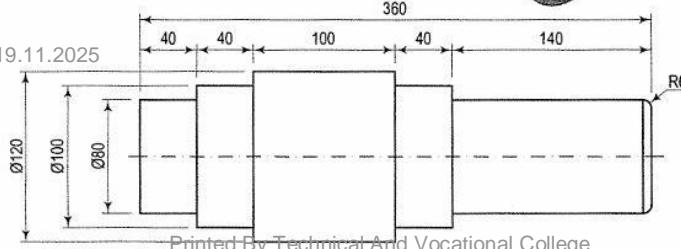

Figure 1 Date: 19.11.2025 11:51 AM
11. Figure 1 below shows machined shaft designed to fit trailers. Draw the representation using AutoCAD software in 3D commands showing all the dimensions.